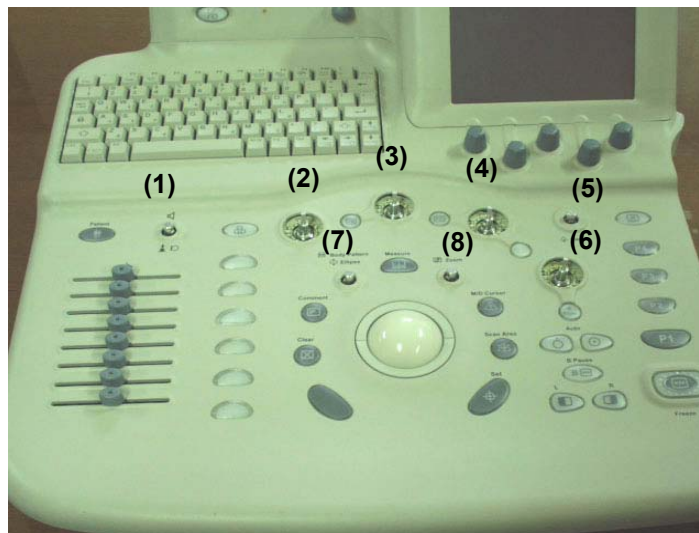

Figure 8-55 Removing 8 encoder knobs
- 1.) Remove the eight(8) encoder knobs (1-8) from the front side of the Keyboard. Refer to Figure 8-55 on page 8-18 .